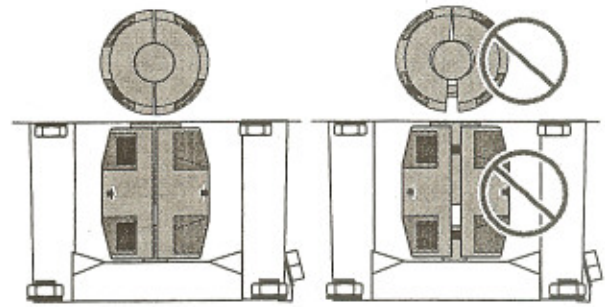

FIGURE 9 - Make Sure that the Coupling Halves are Evenly Tightened
15. Draw up the capscrews evenly so the gap between the coupling halves is equal on both sides (See Figure 9).